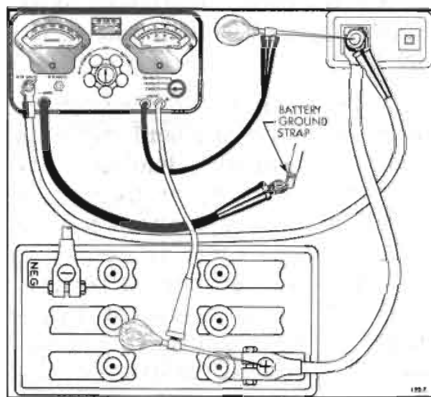

Figure 120-7—Battery Cable Test Connections
2. Connect ammeter positive (+) lead to battery terminal stud on junction block. Connect ammeter negative (-) lead to one side of rheostat and connect other side of rheostat to ground on engine, preferably at point where battery ground strap is attached. In the instrument shown in Figure 120-7 the ammeter and rheostat are connected in series inside the case.
3. Connect voltmeter negative (-) lead to battery terminal stud on junction block. Use prod with voltmeter lead, if necessary, to insure direct contact with the terminal stud. Do not connect to the ammeter lead clip. Attach a prod to voltmeter positive (+) lead and apply the prod to center of battery positive (+) post (Figure 120-7). Make sure that clips of voltmeter leads have clean metal contact with prods.